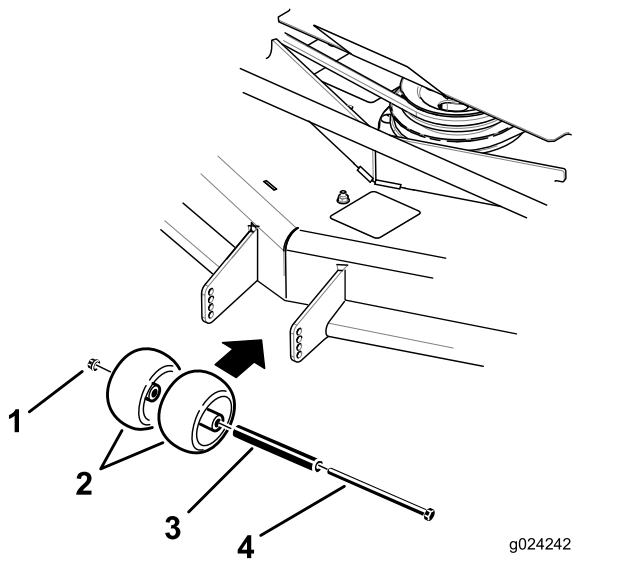
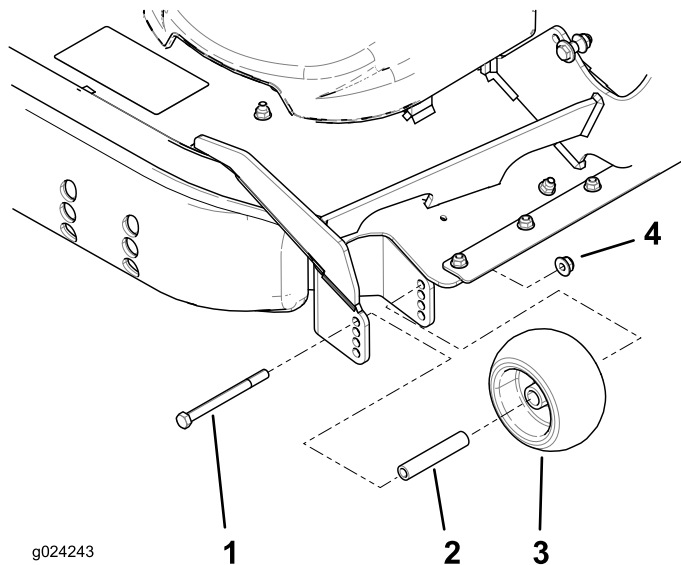

Figure 34
Figure 35
3. Adjust the anti-scalp rollers as shown in Figure 34 and Figure 35.